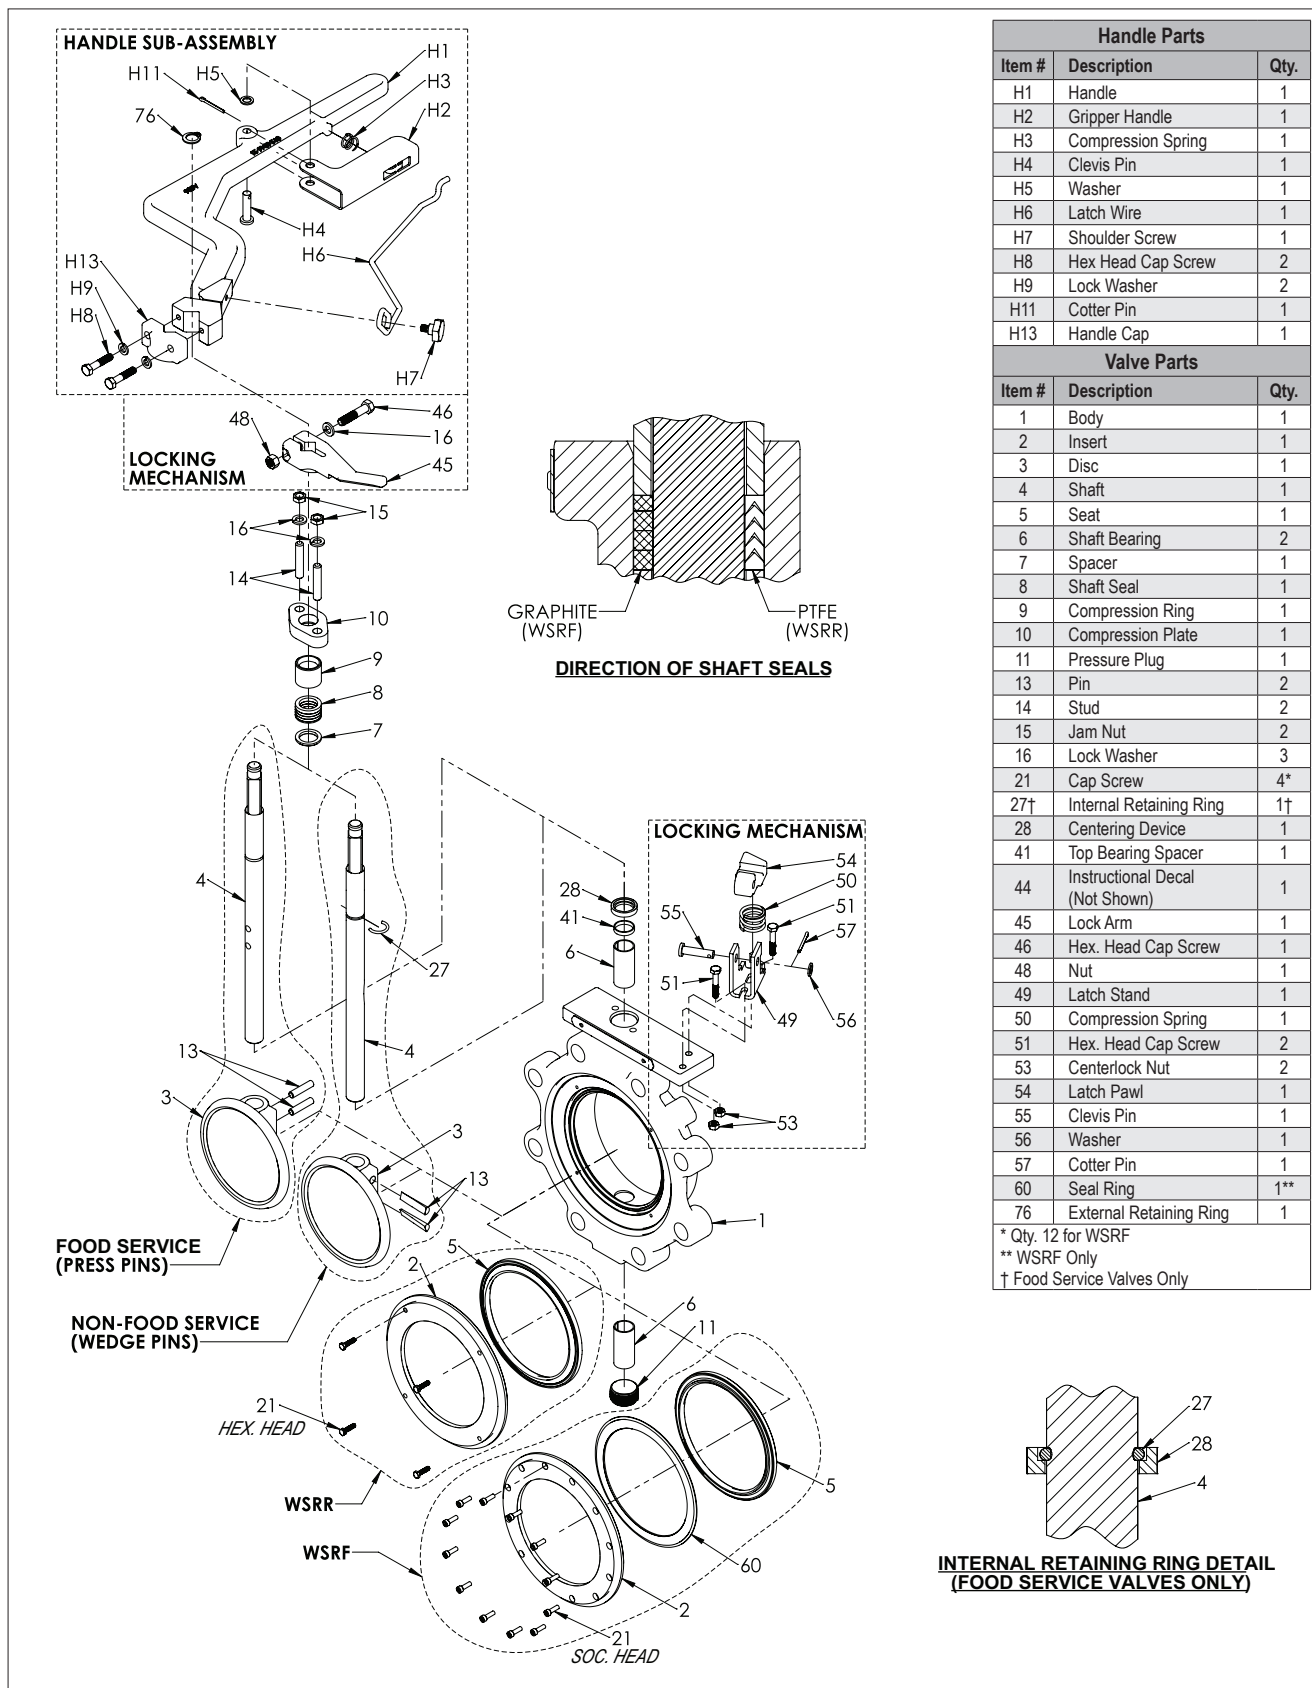
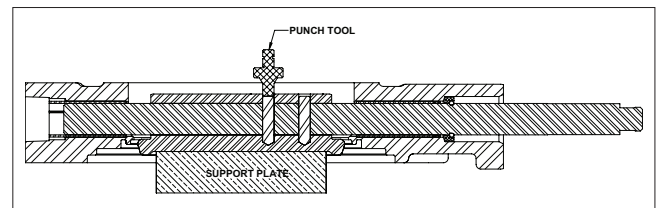
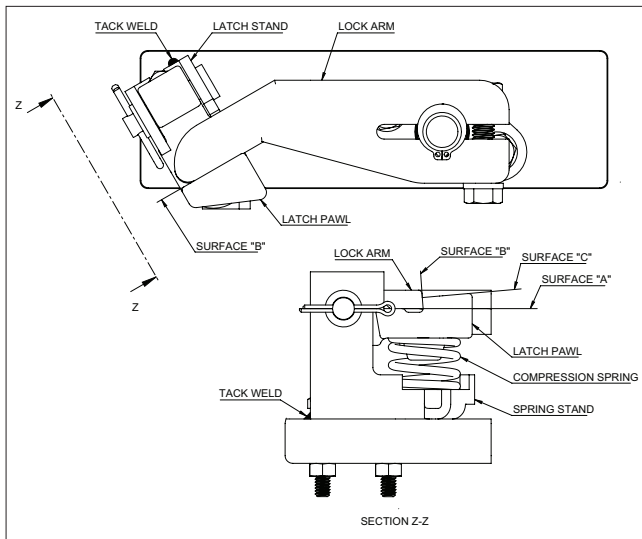
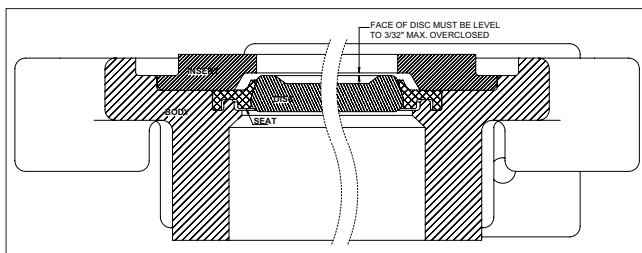

Figure 2.
Figure 6.
Figure 7.
Figure 8.
Numbers in () refer to items shown in Figures 2, 3, 4, & 5.
2. Remove the insert screws (21) and the insert (2), (See **Figure 2**). If the insert does not lift out easily, tap it out from the shaft side using a wooden or plastic rod and a hammer. Don't strike the valve directly with the hammer.
3. Remove the metal sealing ring (60) in type WSRF *Fire-Tite* valves only. Remove the soft seat (5) and discard it. If the valve is *Fire-Tite*, carefully clean the sealing ring. Polish the I.D. It should be free of all grooves and scratches. If deep scratches are present, replace the sealing ring.
5. Carefully clean and polish the sealing surface of the disc (3). It should be free of all grooves and scratches. **BE CAREFUL NOT TO DAMAGE COATING ON FOOD DISC.**
8. Verify that the disc is in the level position. Install the new soft seat (5). Install the sealing ring (60) at this time if *Fire-Tite*. (See **Figure 2**)
1. Remove the retaining ring (76).
2. Remove the handle by loosening the cap screws (H8) which hold the handle assembly to the shaft square. Slide the handle off. Also, loosen cap screw (46) and remove the lock arm (45) from the shaft square.
3. Remove the nuts (15) and lockwashers (16) from above the compression plate. Remove the compression plate. The studs (14) do not have to be removed.
4. Remove the compression ring (9).
5. Remove the old shaft packing (8) with a packing tool.
6. The spacer (7) need not be removed for shaft packing replacement.
7. Install new packing (8) (**See Figure 2 for orientation**).
8. Reinstall the compression ring (9), the compression plate (10), the lockwashers (16) and the nuts (15).
10. Tighten the nuts (15) evenly until the packing is adequately compressed to prevent leakage. This should require tightening the nuts approximately 1-1/2 to 2 full turns past the "finger-tight" position.
11. Reinstall the lock arm (45) and handle as described in steps 12 and 13 to follow.
1. See Sections 5.1.1 through 5.1.4 for removal of insert screws (21), insert (2), metal sealing ring (60) (WSRF only) and seat (5).
2. See Section 5.2.1-5 for removal of retaining ring (76), handle sub-assembly (H1-H13), compression plate (10), compression ring (9) and shaft seal (8).
3. Remove spacer (7) from bonnet end of body (1).
4. Remove pressure plug (11) from non-bonnet end of body (1).
5. Remove pins (13) from disc:
- a. For Non-Food Service valves (wedge pins): remove the pin welds by grinding or machining off the welds. Drive out the pins opposite the installation direction shown in (Figure 2).
- b. For Food Service valves (pressed pins): drill holes carefully to the center of the pins (13). Choose a drill 0.008"-0.020" smaller than the diameter of the pin. Drill the holes deep, but not enough to reach the disc. Pull the pins out.
6. Remove shaft (4) from the disc (3) and body (1).
- a. For Food Service valves: the internal retaining ring (76) will be clamped to the shaft (4), separate the internal retaining ring (76) from the groove in the shaft (4).
7. Remove disc (3) from body (1).
8. Remove centering device (28) and top bearing spacer (41) from bonnet end of body (1).
9. Remove shaft bearings (6) from body (1).
- The ballooned part number, part name and quantity from (Figure 2).
3. Assemble shaft bearings (6) into body (1). Bearing I.D.'s must be free of any burrs that will make shaft insertion difficult.
4. Insert the disc (3) into the body (1). Ensure proper orientation by confirming the pin bosses are on the "BONNET" side of the body.